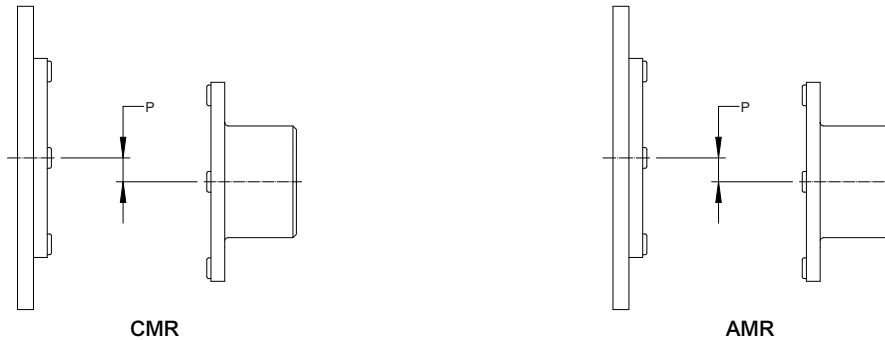

Figure 6 - Parallel Misalignment “P”
- 8.4. The “Parallel Misalignment” value (P) is the offset between the centers of the hubs, as shown in Figure 6.